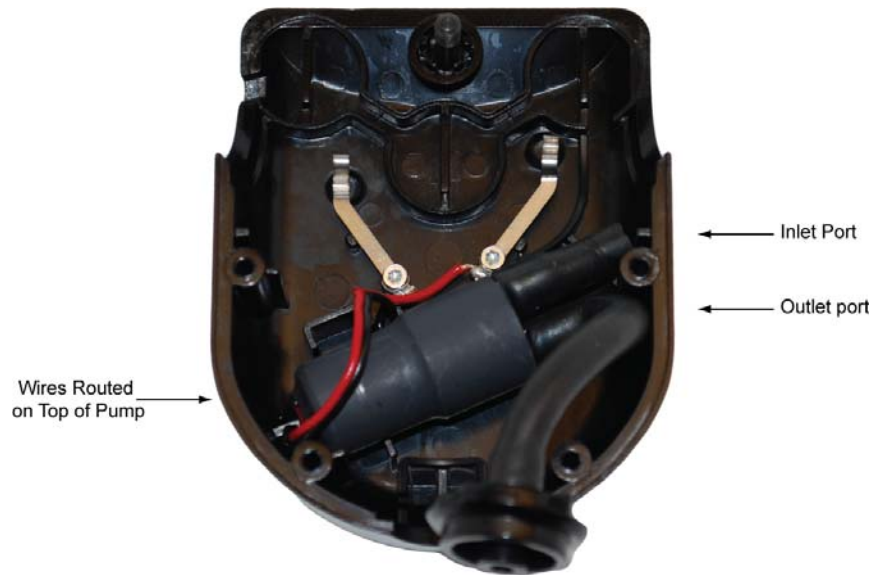

Figure 5-8. Pump Wiring
- 12) Place the pump assembly into the enclosure with the ports positioned over top of one another. The INLET port should be higher than the OUTLET port. Verify the wires are routed on top of the assembly as shown in Figure 5-8.